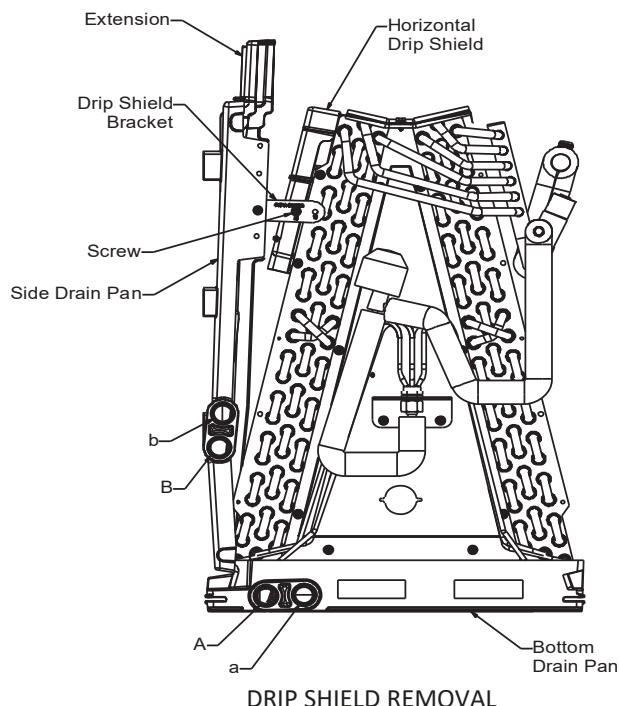

Figure 1
Side Drain Pan and Extension Removal: Refer to Figure 1, remove the two (2) screws that secure the drip shield support brackets to the condensate collectors (front and back). Unsnap the side drain pan from the bottom drain pan using a screw driver or any small lever. The side drain pan, drip shield brackets and the drain pan extension may now be removed. From Figure 1, drain port labeled (A) is the primary drain for this application and condensate drain line must be attached to this drain port. Drain port (a) is for the secondary drain line (if used).
Drain port labeled (B) in Figure 1 is the primary drain for this application and condensate drain line must be attached to this drain port. Drain port (b) is for the secondary drain line (if used).